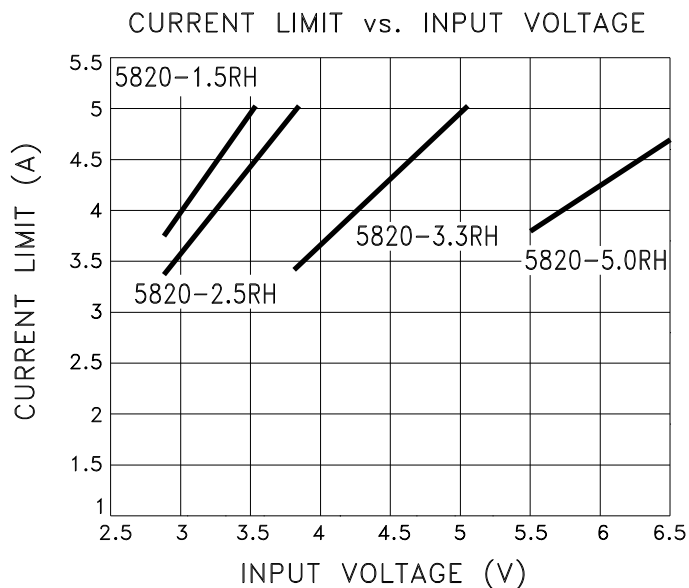

FIGURE 1
- ⑦ Output current limit is dependent upon the values of V_{IN} and V_{OUT}. See Figure 1 and typical performance curves.
- ⑧ Continuous operation at or above absolute maximum ratings may adversely effect the device performance and/or life cycle.
- ⑨ V_{IN} shall be as specified or V_{IN} min., whichever is greater.
- ⑩ Not applicable to versions where V_{IN} = V_{IN} Min.
- ⑪ Pre and post irradiation limits at 25°C, up to 300Krad TID, are identical unless otherwise specified.
- ⑫ Reference DSCC SMD 5962F09216 for electrical specification for devices purchased as such.
The MSK 5820RH current limit function is directly affected by the input and output voltages. Figure 1 illustrates the relationship between VIN and ICL for various output voltages. It is very important for the user to consult the SOA curve when using input voltages which result in current limit conditions beyond 4.5 Amps. When using input voltages which result in current limit above 4.5 Amps, the user must maintain output current within the SOA curve to avoid damage to the device. Note that 5 Amp maximum is due to current carrying capability of the internal wirebonds.